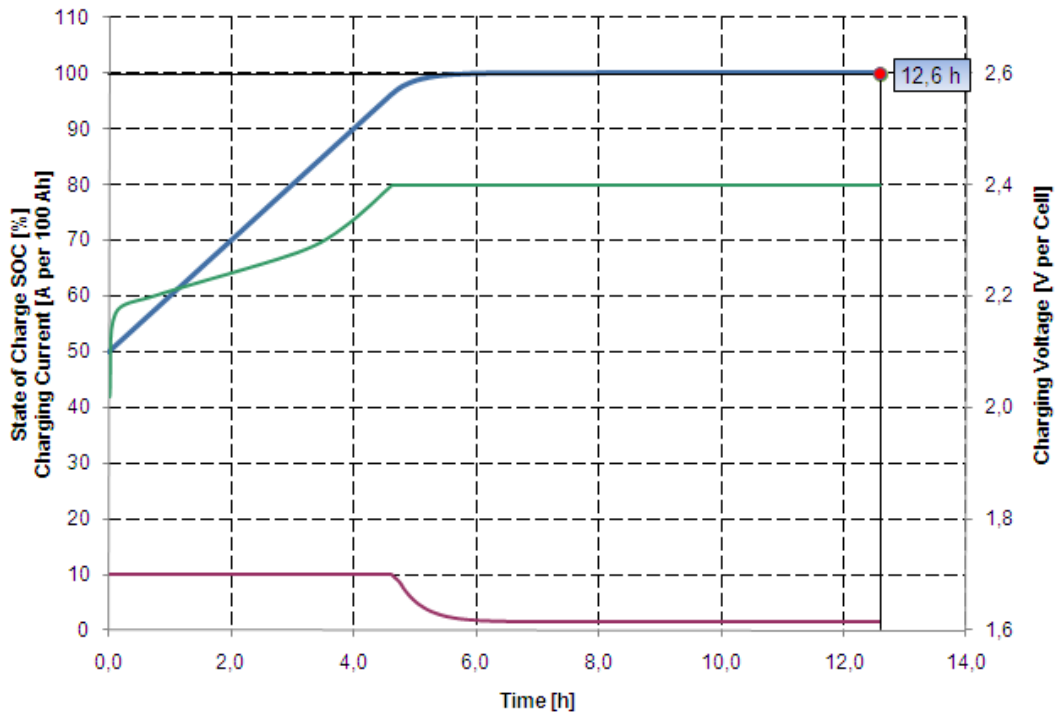
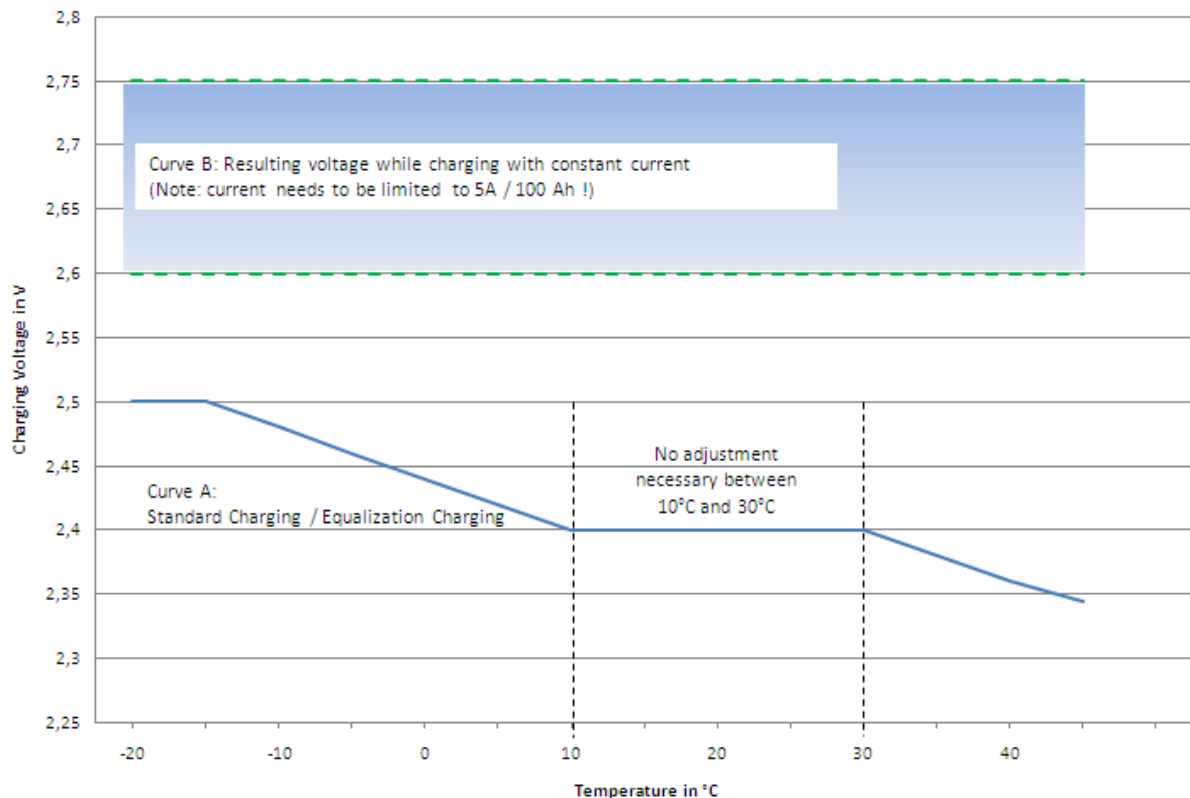

Figure 1: Charging characteristic of OPzS solar.power cell at 50% DoD
Figure 2 : Charging voltage as a function of temperature in solar cycling operation
The chart below (refer to Figure 1) demonstrates the OPzS solar.power recharge characteristic (IU-characteristic) after discharge with 50% DoD (Depth of Discharge).
Charging procedure shall be compliant to IU- or IU_a- characteristic (refer to example Figure 1 and to standard in /2/). Recommended charging voltages for cyclical applications² are depicted in Figure 2.
Used for regular recharge after every battery discharge. The charging procedure shall comply to IU-characteristic with 2.4 V/cell (refer to curve A in Figure 2). Note: Up to 2.4 V/C the charging current is theoretically not limited. However the recommended charging current is 5A to 20A³/100 Ah nominal battery capacity (C10).
(refer to curve B in Figure 2). I_a phase should last either 2 or 4 hours (refer also to chapter 1.5 Charging procedure for cyclic applications).
- Max. 2.4 V/Cell up to 72 hours (refer to curve A in Figure 2). Note: Up to 2.4 V/C the charging current is theoretically not limited. However a restriction of max. charging current to 20A/100 Ah nominal battery capacity (C10) is reasonable. In case of charging voltages above 2.4V/C the charging current needs to be restricted to 5A / 100 Ah battery capacity (C10). Resulting voltage range is 2.6 to 2.75 V/C (refer to curve B in Figure 2).
Temperature dependent voltage adjustment as shown in Figure 2: